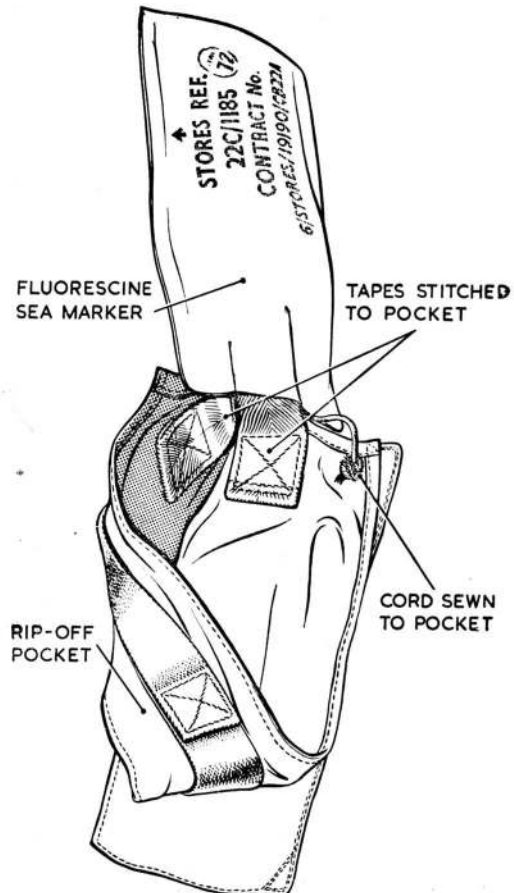

Fig. 10. Attachment of sea marker to pocket
28. Stitch the cord on the fluorescine sea marker firmly to the life jacket. Stitch one of the tapes at the top of the marker to the life jacket and the other to the top of the rip-off pocket, using 50/3 cord linen or a suitable equivalent linen thread (fig. 10). There should be 8-12 stitches per inch, and the ends of the thread must be securely fastened off. Sew down the free sides of the pocket with scarlet locking thread (5 stitches to the inch).